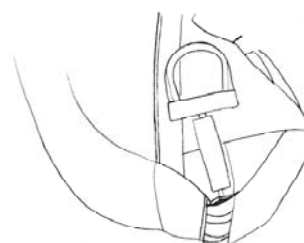

Fig.8
- Cover the connecting strap between the handle and backup parachute with a small velcro flap. Secure the handle to the side of the harness using a velcro strap (see Fig. 8).